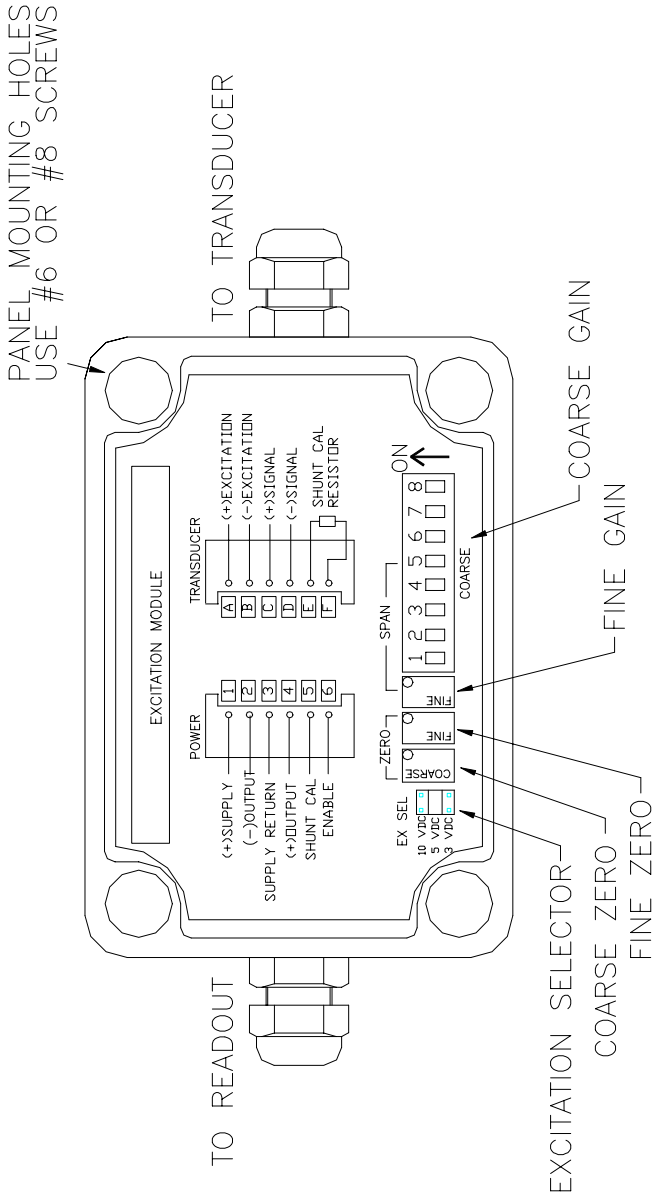

Figure 1-1: Layout of Model UV-10 In-Line Amplifier
2. Set the EXCITATION SELECT JUMPER as shown below: (See Fig.1-1 for location of jumpers).
4. Set the COARSE GAIN SWITCH (See Fig.1-1 for location of switch) to the nearest mV/V setting in the corresponding excitation column in Table 1.
Step 3. Connect a jumper across PINS 5 & 6 of the power terminals (See Fig. 1-1) or wire in a switch as shown in wiring section. Adjust the SPAN potentiometer to the calculated voltage or calculated units on the readout instrument or voltmeter.